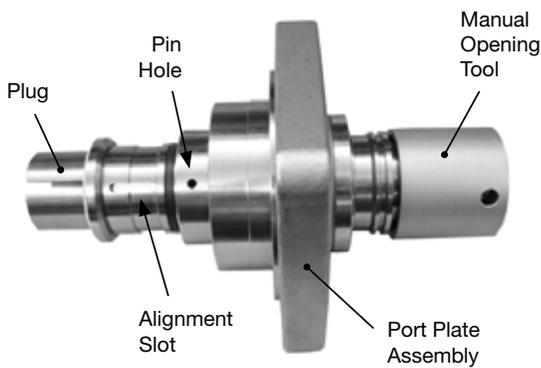

Figure 15: Assembly of the PEV Plug
- Insert the new plug and turn the manual opening tool clockwise to engage the plug with the threads. Keep the anti-rotation slot aligned with the pin hole and make sure the ring seal at the top of the plug is not damaged entering the port plate. Stop threading once the slot is aligned under the pin hole and insert the pin. Figure 15 provides additional information on the proper plug/port plate alignment.